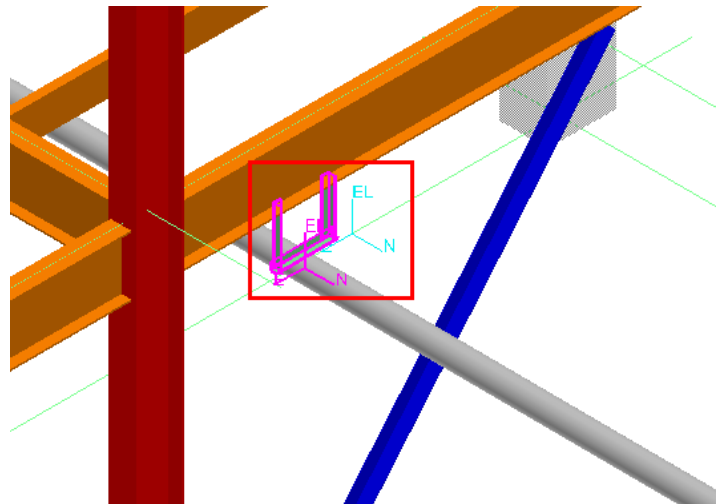

Figure 6: Selected Standard Support
13. Select the standard support, **U Shaped Frame L2x2x1/8 w/o Baseplate**, in which you will place the new part, a U-bolt, as shown in Figure 6.